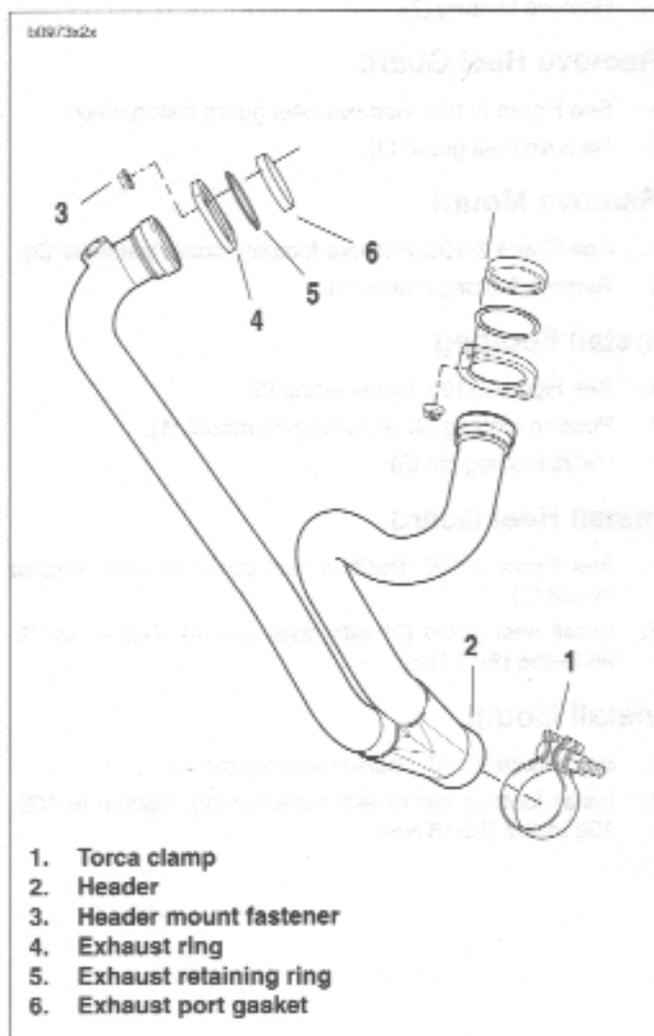

Figure 2-99. Exhaust Header
6. See Figure 2-99. Loosen Torca clamp (1) and remove muffler.
3. See Figure 2-99. Remove exhaust header (2) by removing mounting fasteners (3).
4. Remove exhaust ring (4), retaining ring (5) and port gasket (6).
1. See Figure 2-99. Install exhaust ring (4), retaining ring (5) and new port gasket (6).
2. Install exhaust header (2). Tighten mounting fasteners (3) to 72-96 in-lbs (8-11 Nm).
5. See Figure 2-99. Tighten the Torca clamp (1) to 40-45 ft-lbs (54-61 Nm).